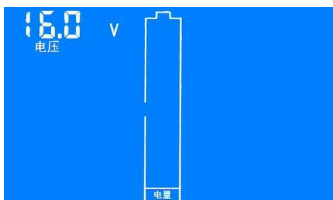

Figure 5: cut-off voltage setting interface (low bit)
Step 1: After you set the full voltage, longer press the button until LCD shows the interface of Fig. 5, then release the button;